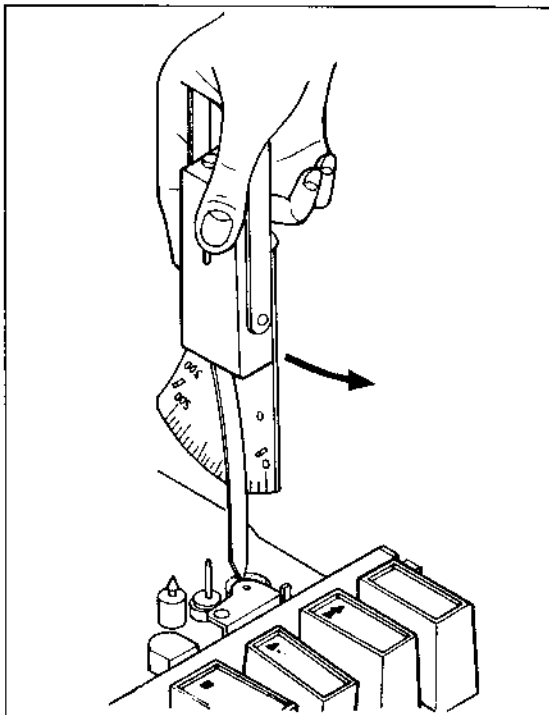

Fig. 3-11 Pinch roller pressure checkout
- * Special spring scale as shown in Fig. 3-11 or equivalent.
3. Check the pressure applied to the pinch roller by using a special spring scale as shown in Fig. 3-11 and 3-12.